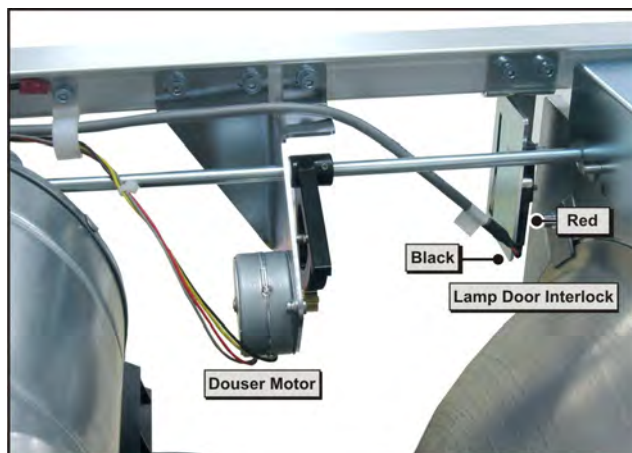

Figure 5-57 Lamp Door Interlock
3. Disconnect red and black leads from the Lamp Door Interlock. **NOTE:** Red lead to “No” label on interlock and black lead to “COM” label (Figure 5-57).